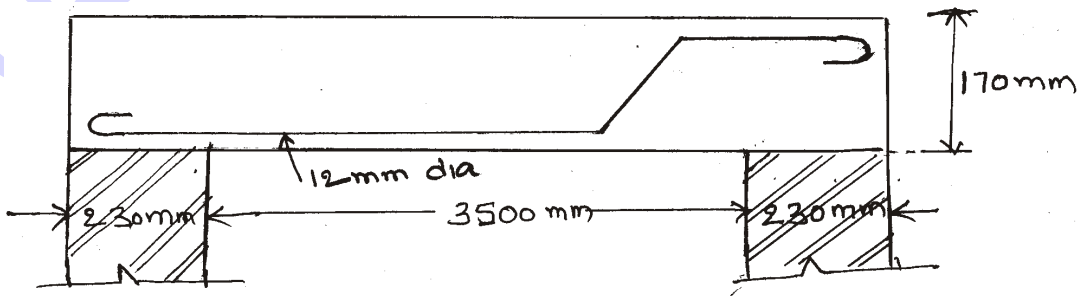

Fig. 1
3. Calculate the total length of steel rod required for 12 mm dia as shown in Fig. 1. Take all covers 25 mm.